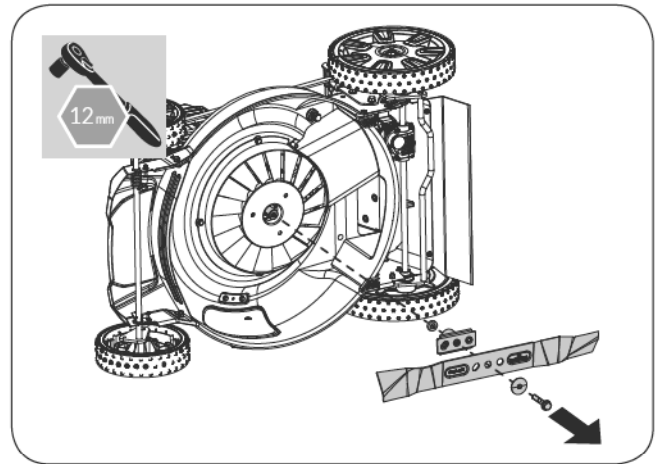

Figure 23
1. Remove the blade. (See **Figure 23**)